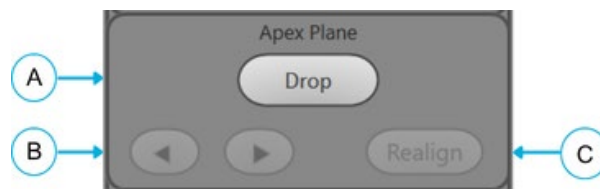

Figure 7-23: Apex Plane Menu
2. Locate the Apex Plane menu on the displayed Settings screen (**Figure 7-23**).